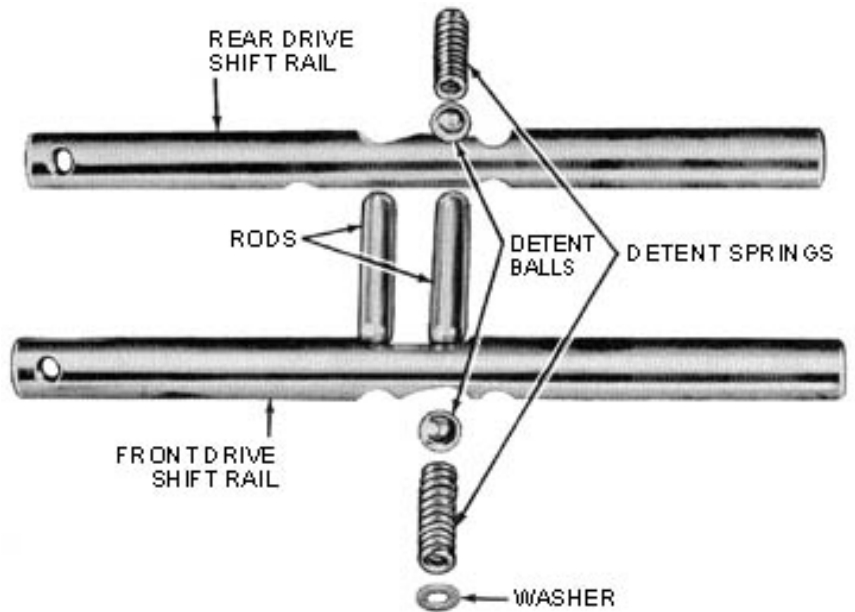

Figure 18 – Shift Mechanism
5. Slide the rear drive shift rail into the case, and position the shift fork on the rail as the rail goes into the case. Secure the fork to the rail with the setscrew. The shift rails should be inserted so that the detents are positioned as shown in Fig. 18.